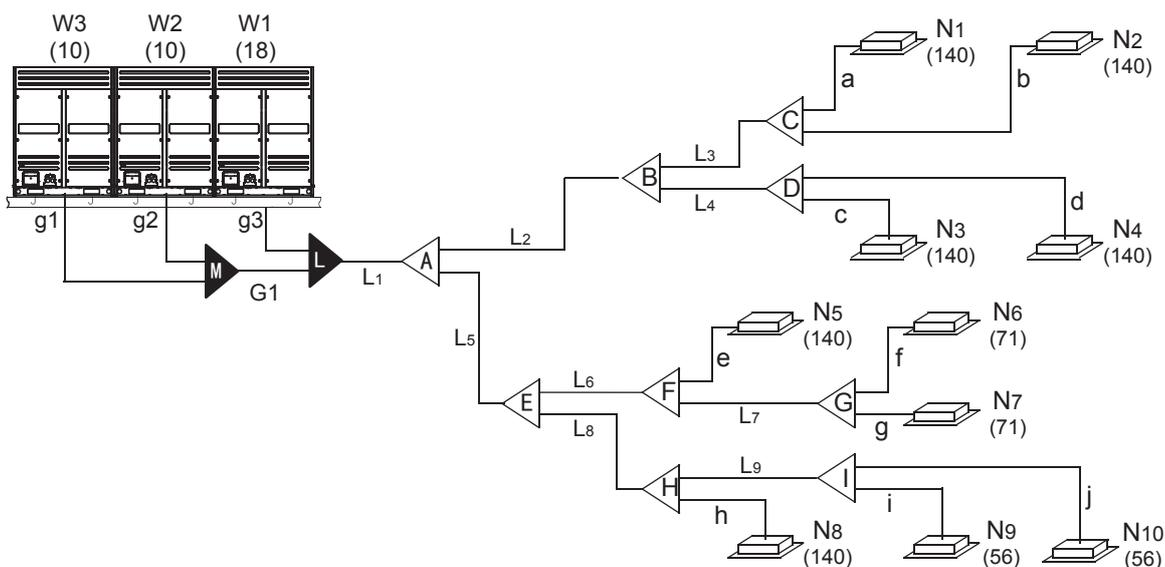

Fig.5-4
- Take Fig.5-4 as an example. Provided that the equivalent length of all pipes in this system is larger than 90m.
Main pipe L1 in the Fig.5-4, which upstream outdoor units total capacity is $10 + 12 + 16 = 38$, base on table.5-5, the gas/liquid pipe diameter are $\Phi 38.1/\Phi 19.1$, total capacity of the downstream indoor unit is $140 \times 6 + 56 \times 2 + 71 \times 2 = 1094$, base on table.5-3, the gas/liquid pipe diameter are $\Phi 38.1/\Phi 19.1$, take the large one for your selection, final confirm the main pipe diameter is: gas/liquid pipe $\Phi 38.1/\Phi 22.2$.